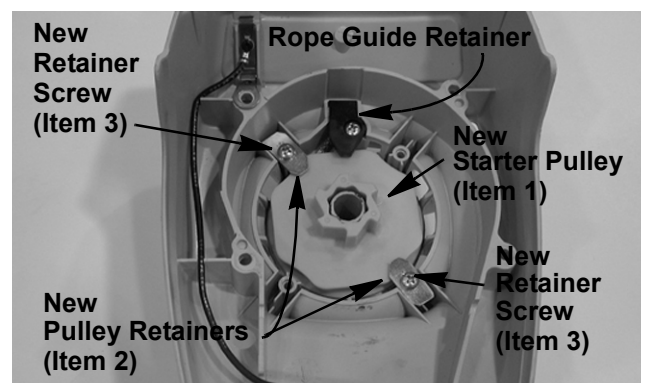

FIGURE 7
**Installation Instructions: Refer to Figure 7.**
21. Pull up a loop of rope, and wind the pulley clockwise (CW) far enough to put tension on the rope.
- Install the two new Pulley Retainers, Item 2, in the starter housing as shown in Figure 7, and secure them with the new phillips head Retainer Screws, Item 3.